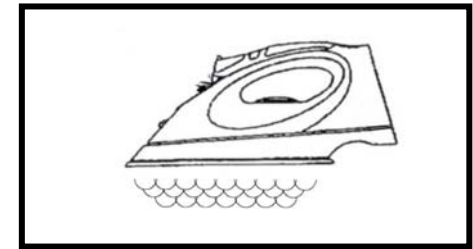

Figure 4
3. With the iron in a horizontal position, press the burst of steam button several times to prime the pump. See Figure 4.